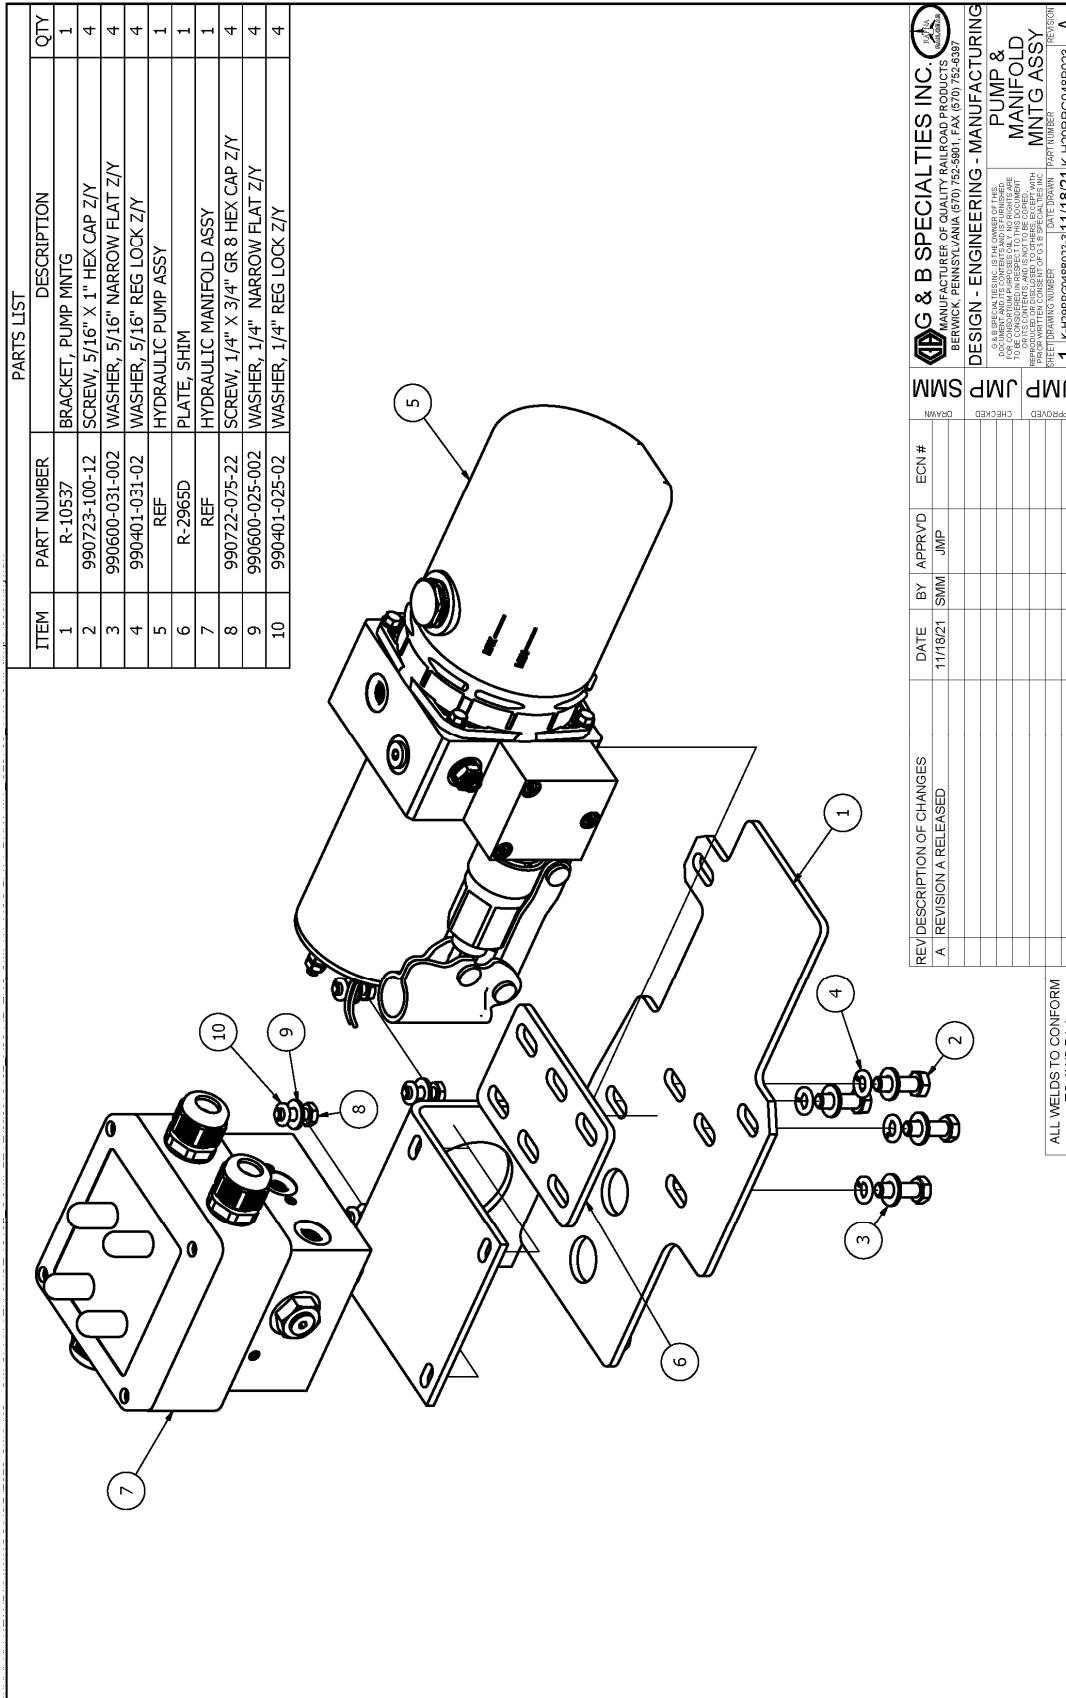

Figure 3
4. Bench assemble hydraulic pump, manifold, and pump bracket as shown. Figure 3